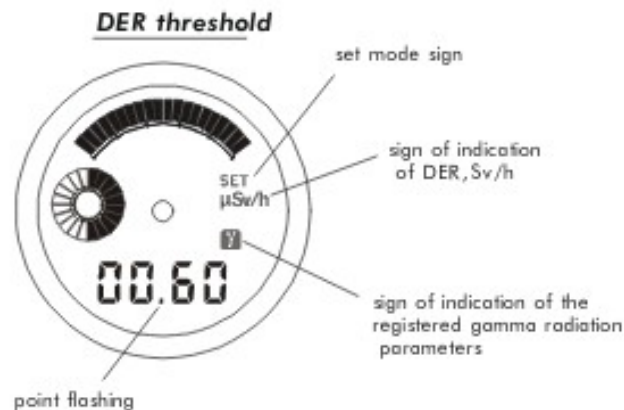

Fig. 2.9
To set the DER threshold switch ON the DER indication as described in paragraph 2.4.1. Press and hold the "set" button (2) and the LCD will show the preset DER threshold value with a dividing sign "." (point) flashing and the set mode sign and completely filled in linear analogue scale will be displayed (Fig.2.9)